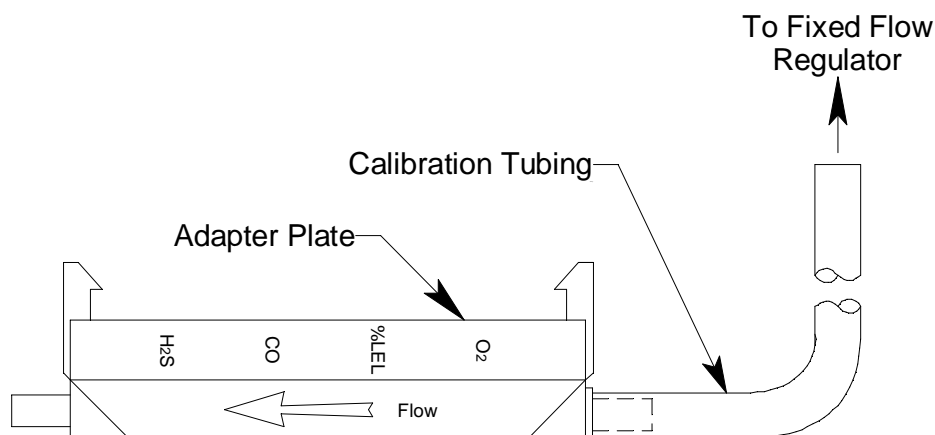

Figure 11: Calibration Kit Assembly
4. Use the sample tubing to connect the calibration adapter plate to the regulator. Attach the tubing to the adapter plate on the inlet side as shown below in Figure 11.